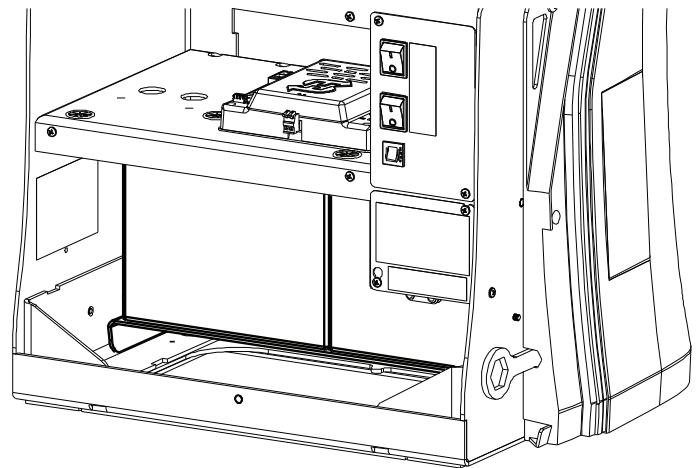

Figure 41. Installed Extended Batteries
7. Place the 35Ah batteries on the tray. (Figure 41)